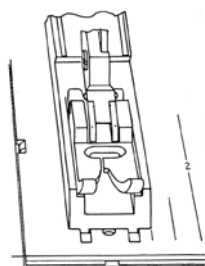

Fig. 16
- Insert the presser foot gauge (63-114 690-39) from behind under the zigzag foot and into the cutout of the needle plate (fig. 16).